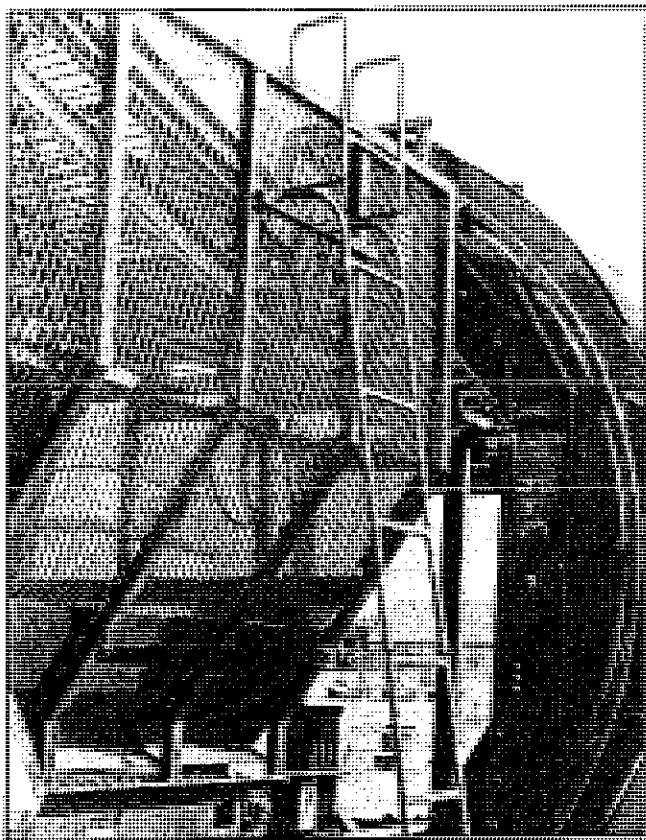

Figure 3.10: Ladder Assembly.
Attach ladder and ladder extension to tank (see Figure 3.10). Use two (2) 3/8" x 2" carriage bolts and two (2) 3/8" flange lock nuts to loosely join ladder and ladder extension together. Put two (2) 3/8" x 1" carriage bolts and two (2) 3/8" flange lock nuts into ladder extension. Slide assembly onto ladder mounts and secure to ladder brackets using two (2) 3/8" x 1" carriage bolts and two (2) 3/8" flange lock nuts.